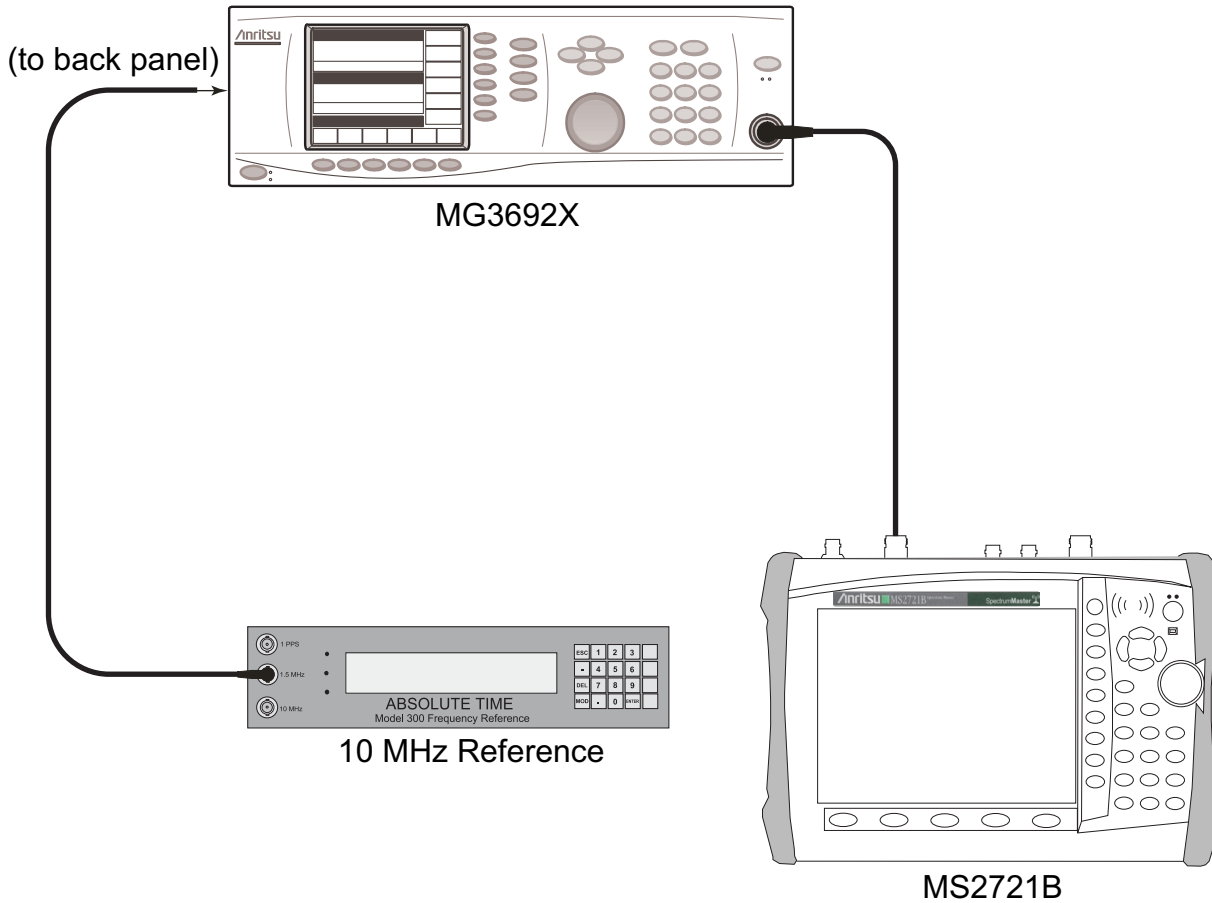

Figure 2-1. Spectrum Analyzer Frequency Accuracy Test Setup
1. Connect the external 10 MHz Reference to the Anritsu MG3692x Synthesized Signal Generator as shown in Figure 2-1.
11. Press the **Shift** key and then press the **Trace** (5) key.